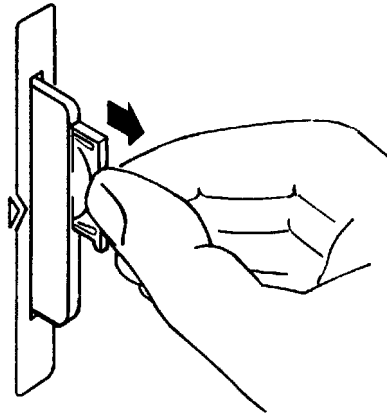

Figure 22 **Replacing the Memory Card's Battery**
2. Hold the memory card in the slot with one hand and pull the battery holder out with your other hand. (See figure 22.)